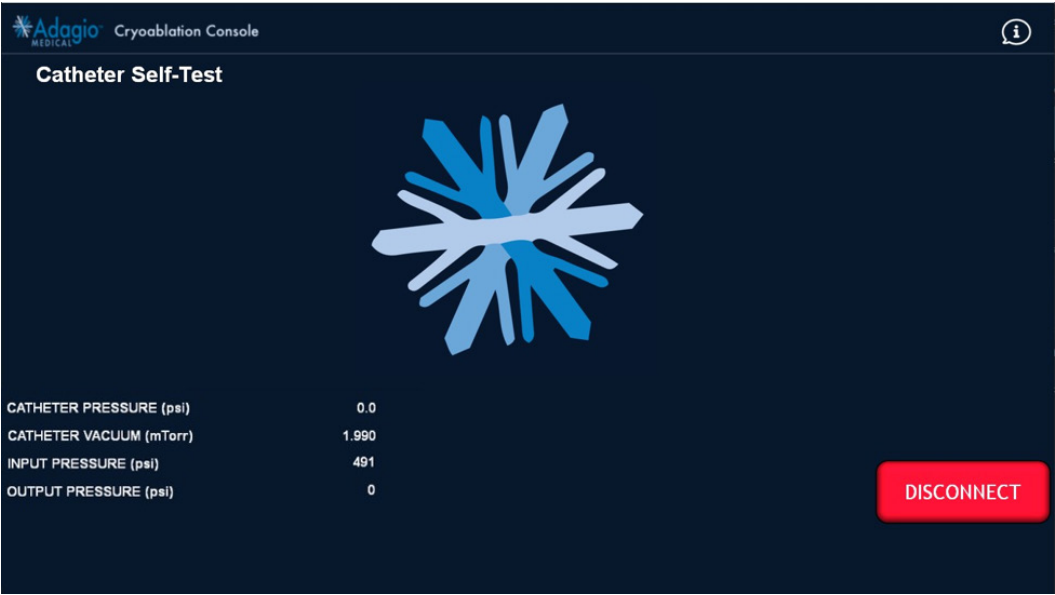

Figure 39 – Catheter Self-Test In-progress Screen Image
11. The Console will begin to perform a series of Catheter Self-Tests (Figure 39).